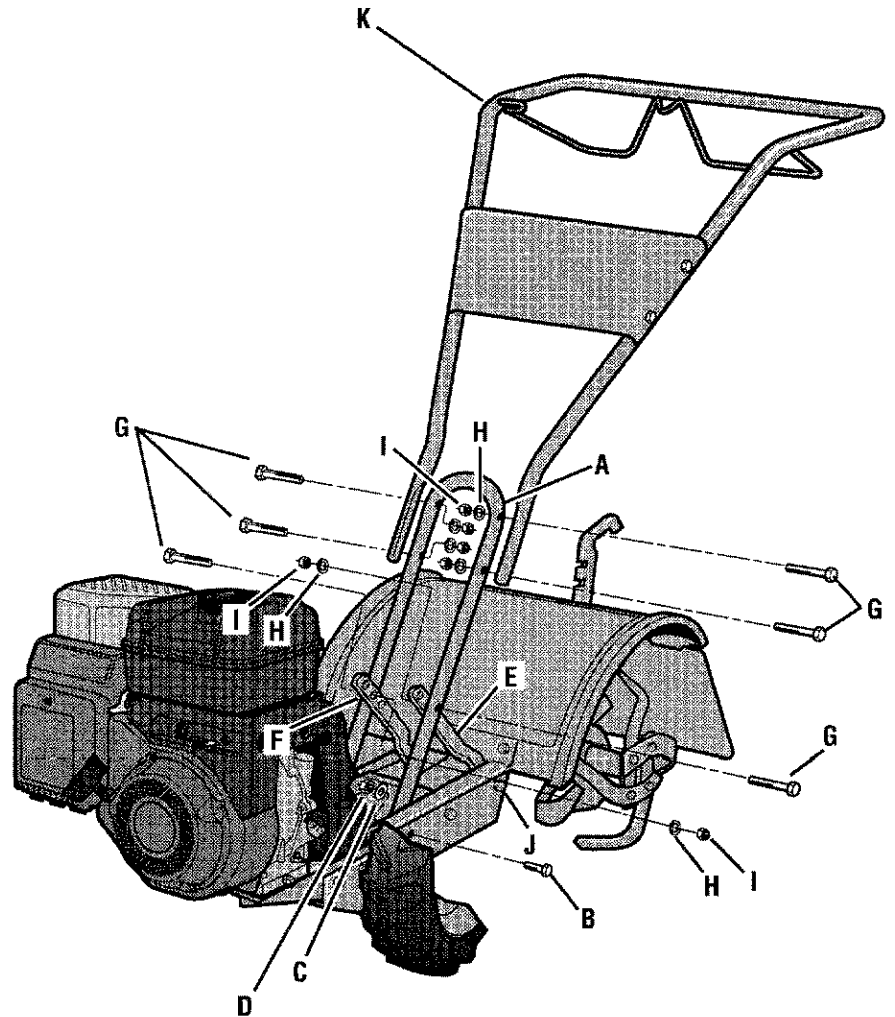

Fig. 2-2: Attach handlebar.
1	Handlebar Support (see A, Fig. 2-2, page 7)
1	Handlebar Assembly (see K, Fig. 2-2) The following items are in the hardware bag:
1. Loosely attach the two legs of the handlebar support (A, Fig. 2-2) to the inner sides of the tiller frame using two 3/8"-16 x 3/4" hex hd. screws (B), 3/8" flat washers (C) and 3/8"-16 hex locknuts (D).
2. There are three height adjustment holes in the two handlebar support brackets (E and F, Fig. 2-2). Choose a setting that will position the handlebars at approximately waist level when the tines are 3"-4" into the soil. Loosely attach the support brackets to the handlebar support (A) using two 5/16"-18 x 1-1/2" screws (G), 5/16" split lockwashers (H) and 5/16"-18 hex nuts (I). NOTE: If a support bracket will not move, loosen attaching screw (J) and nut.
3. Attach the handlebar assembly (K) to the handlebar support (A) using four 5/16"-18 x 1-1/2" screws (G), 5/16" split lockwashers (H) and 5/16"-18 hex nuts (I). Tighten the four screws securely.